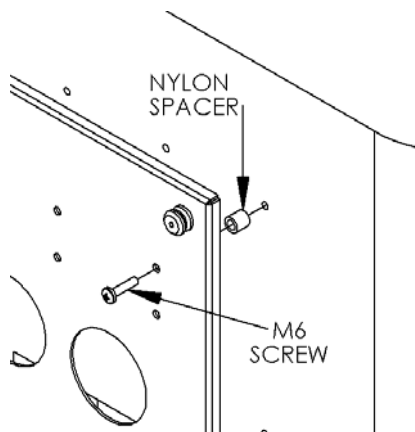
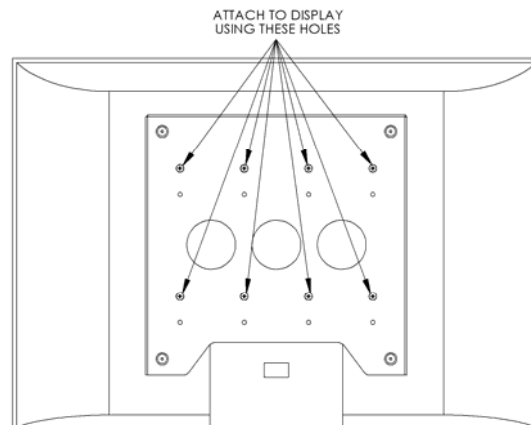
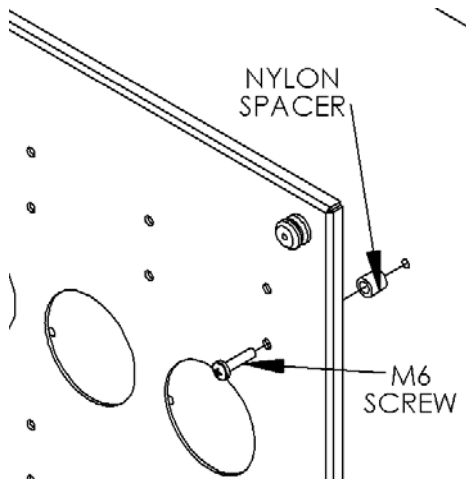
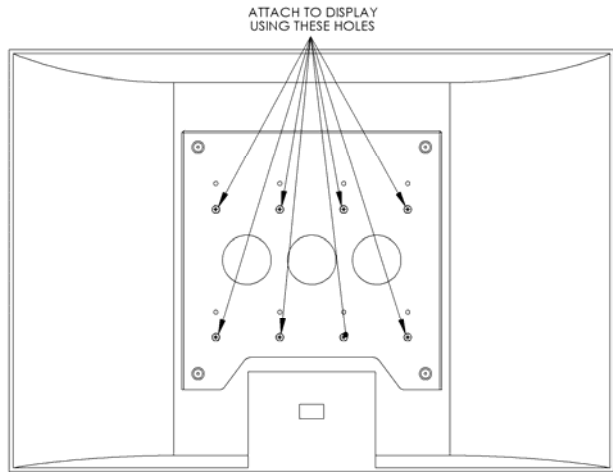

Figure 4
Figure 5
Figure 6
Figure 7
2. Place Nylon spacers on mounting holes, aligning hole pattern on brackets with pattern on back of LCD Display (see Figure 4 & Figure 5 for 32" displays) (see Figure 6 & Figure 7 for 37" displays).